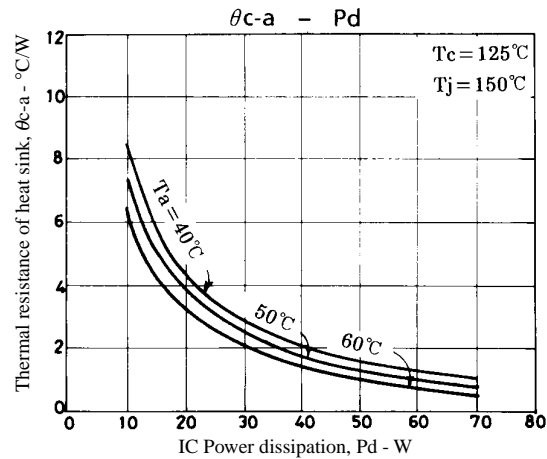

Figure 3. STK4192II θc-a - Pd
Figure 3 shows the relation between Pd and θc-a given from (1) and (3) with Ta as a parameter.
The thermal resistance of a heat sink is obtained from Figure 3.